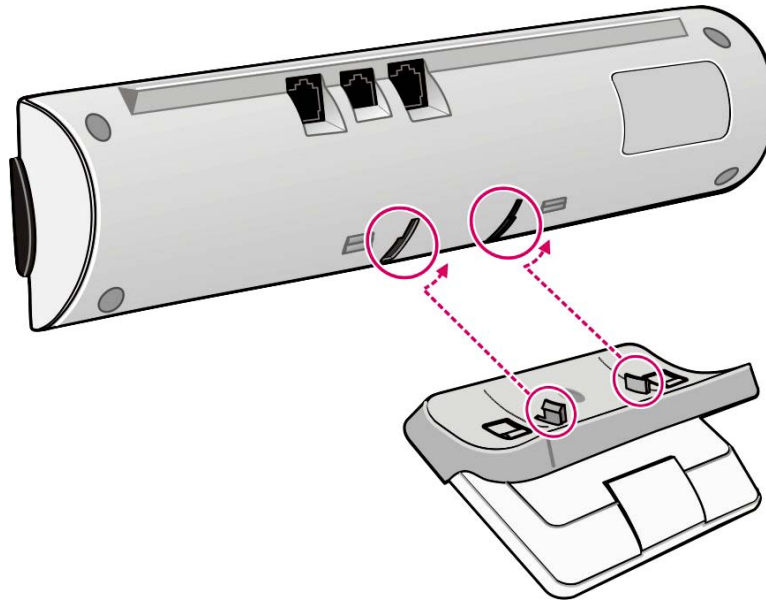

Figure 5.5 Mounting WBS24 on a Table
- 6) Two screw holes are located at the bottom surface of WBS24. With two hands, match the two holes of the WBS24 with the screws on the concrete wall, and pull the WBS24 downwards. For information on how to install a wall bracket into WBS24, refer to Figure 5.5. Stand the support shown in Figure 5.5 and install the support into WBS24 as shown in the figure below to mount WBS24 on a wall: